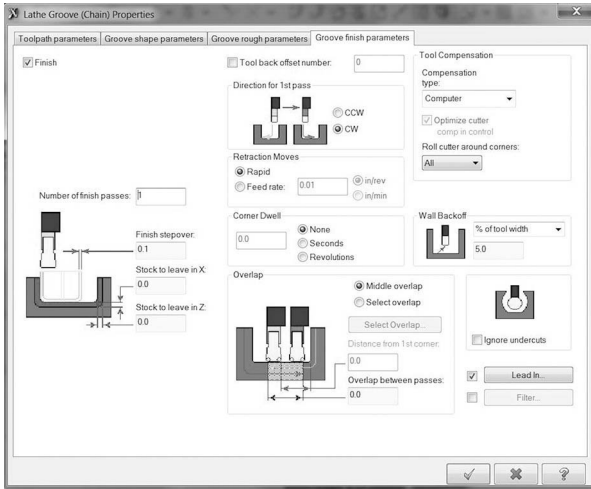

Figure 5-72 Groove Finish Parameters
- Set the Groove finish parameters tab, as shown in Figure 5-72.